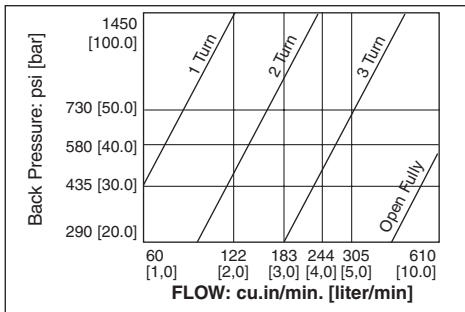

Figure 3, Back Pressure vs. Flow Throttle: G - F (See Figure 1)
3. For less flow restriction back out according to Back Pressure vs. Flow, Throttle G-F graph. (See Figure 3.)